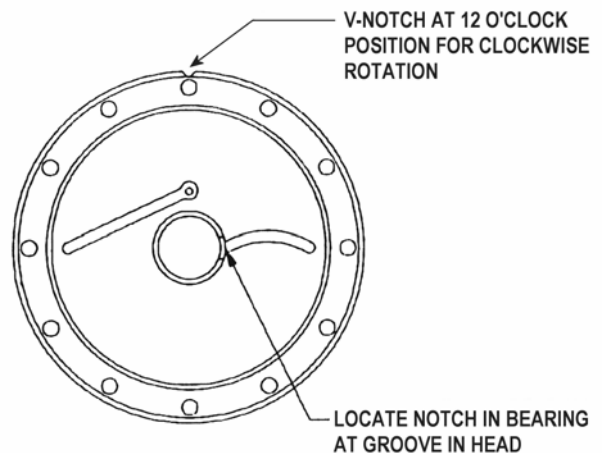

Figure 5 – Bearing Location
- c. Coat the bearing with grease and place it on the inside face of the head, with the notched end UP. Align the notch in the bearing with the groove in the head (see Figure 5).
3. Apply a small amount of quality O-ring lubricant on a new head O-ring (72), and install in the groove on the inside face of the outboard head (23).